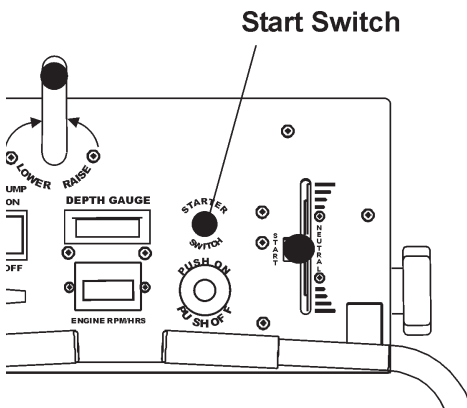

Figure 23. Start Switch
7. Push the **Start Switch**(Figure 23) to start the engine
8. If the engine has started, slowly return the choke lever (Figure 23) to the **CLOSED** position. If the engine has not started repeat steps 1 through 5.